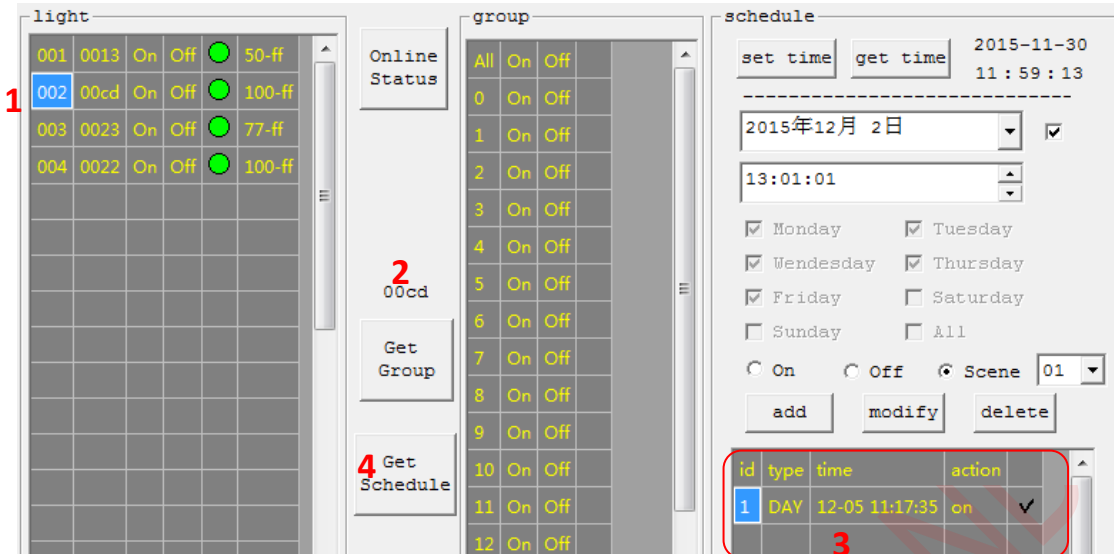

Figure 32 Obtain light's alarm clock information
- a) Double click one light's serial number, e.g. 002 as shown in mark 1 of Figure 32. The light's ID (device addr) will be available on the window, as shown in mark 2 of Figure 32.
- b) The light's alarm clock information will be obtained automatically by the APP. Mark 3 of Figure 32 shows the obtained alarm clock information.
- c) Clicking the "Get Schedule" button (as shown in mark 4 of Figure 32) is to obtain the light's alarm clock information manually.